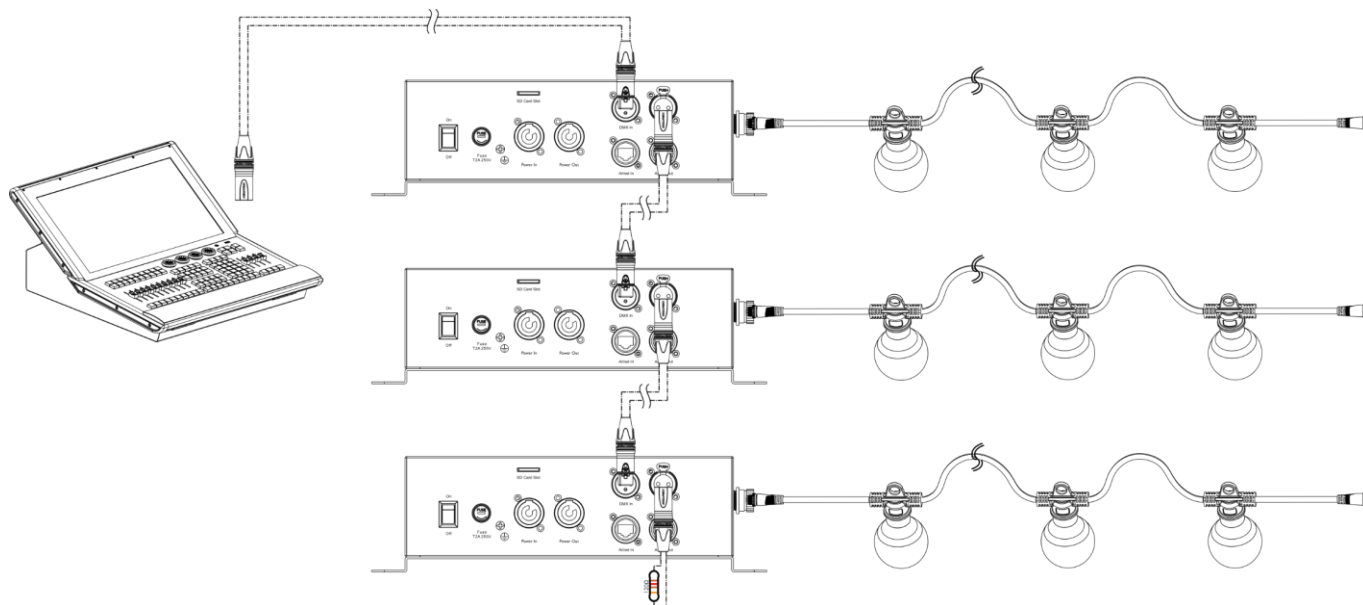

Fig. 07
- 04) Link the units as shown in Fig. 07. Connect a light controller to the first unit's DMX "in" socket, using a DMX cable. Connect the first unit's "out" socket with the second unit's "in" socket, using a DMX cable. Repeat this process to link the rest of the units.